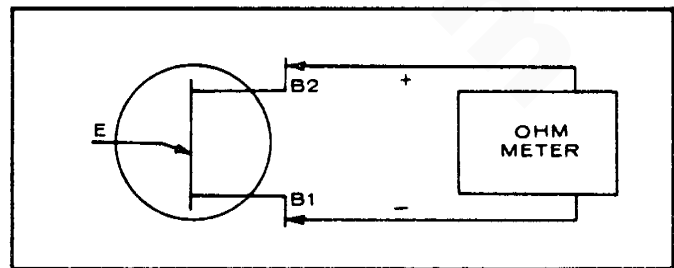

FIGURE 17.
3. Connect as shown in Figure 17. The resistance between B1 and B2 should be between 4,000 and 10,000 ohms. Reversing the leads should not change this value.